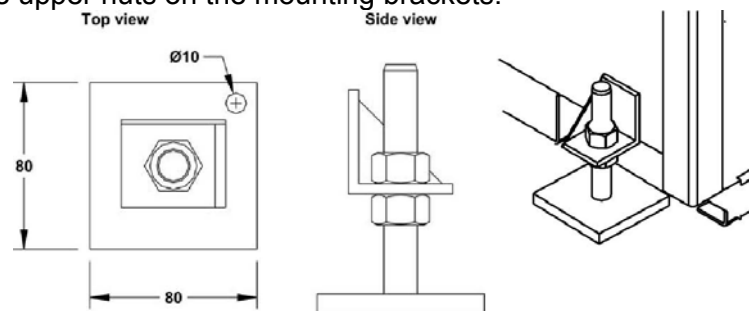

Figure 1. Mounting brackets
- 3) Remove the upper nuts on mounting brackets (see fig. 1)